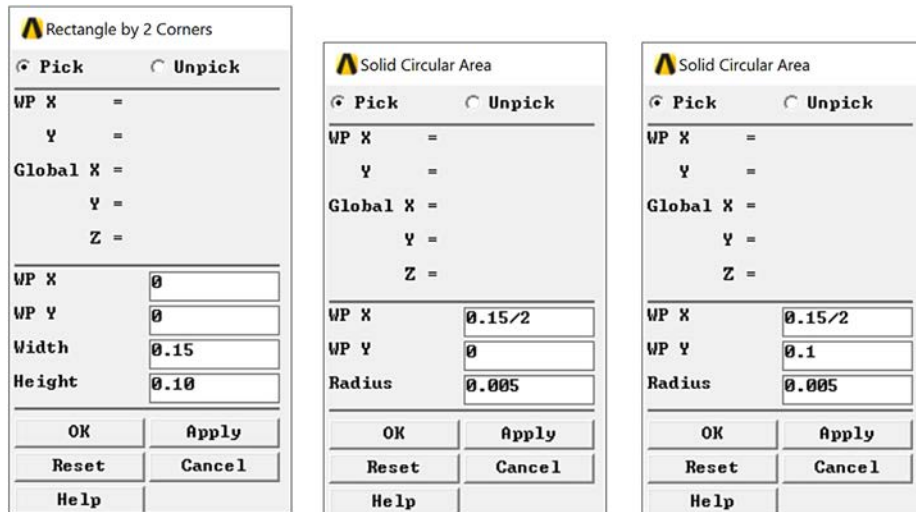

Figure 2-1-4 Defining Solid Model Entities: Rectangle (left), Bottom Circle (center), Upper Circle (right).
- Enter 0 for WP X (Figure 2-1-4, left)
- Enter 0.15/2 for WP X (Figure 2-1-4, center)
- Enter 0.15/2 for WP X (Figure 2-1-4, right)